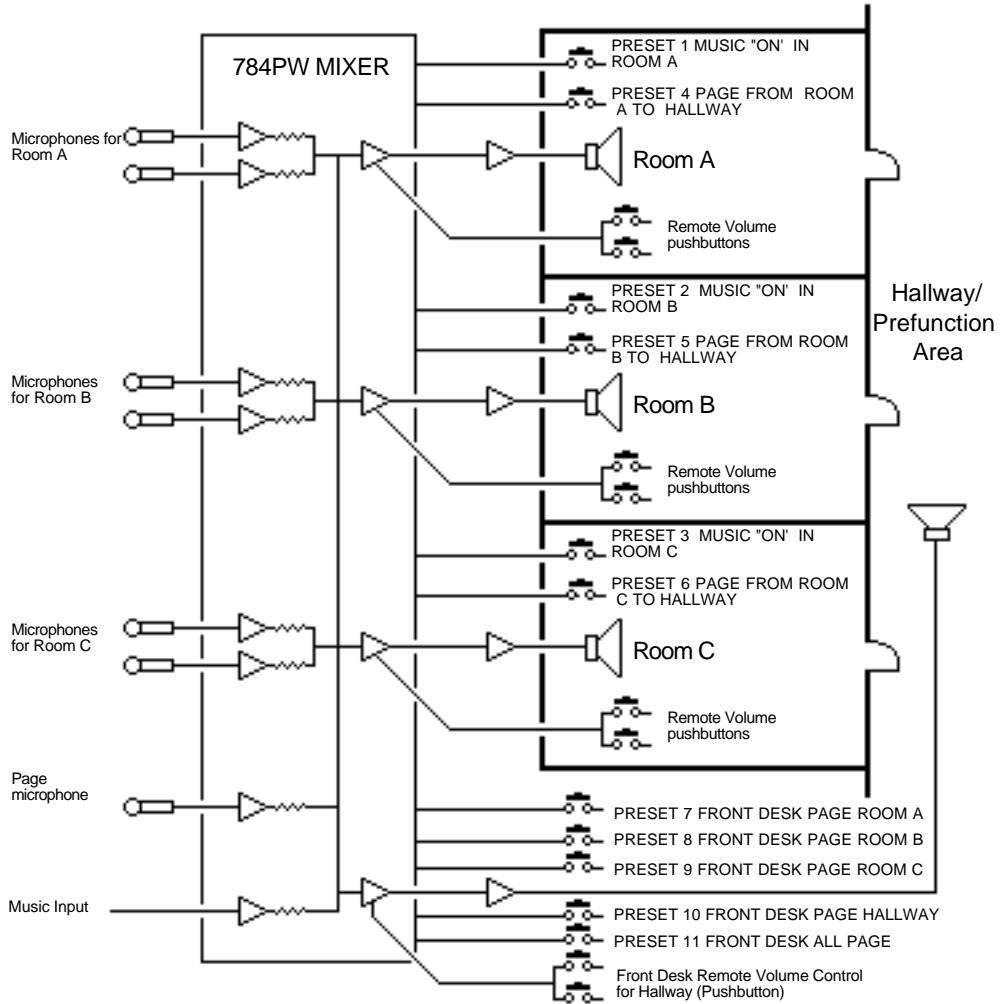
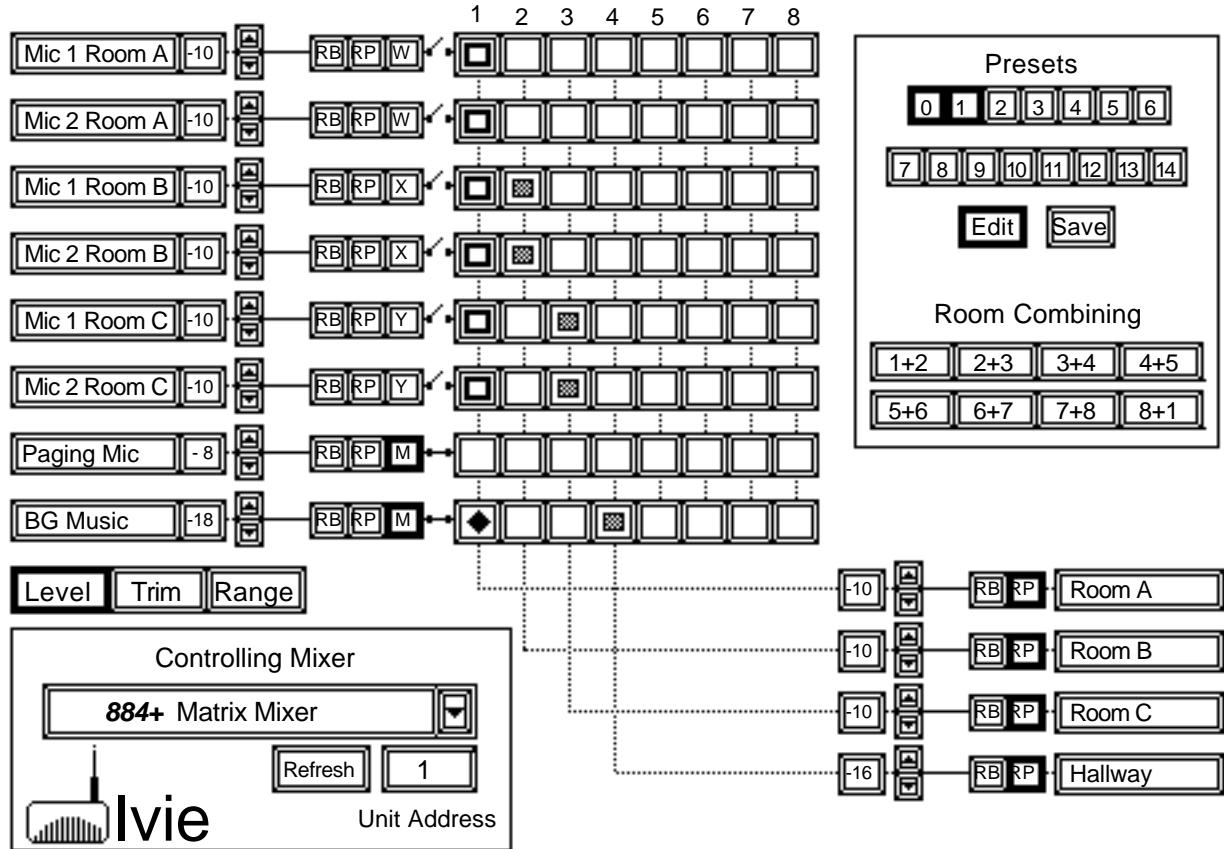
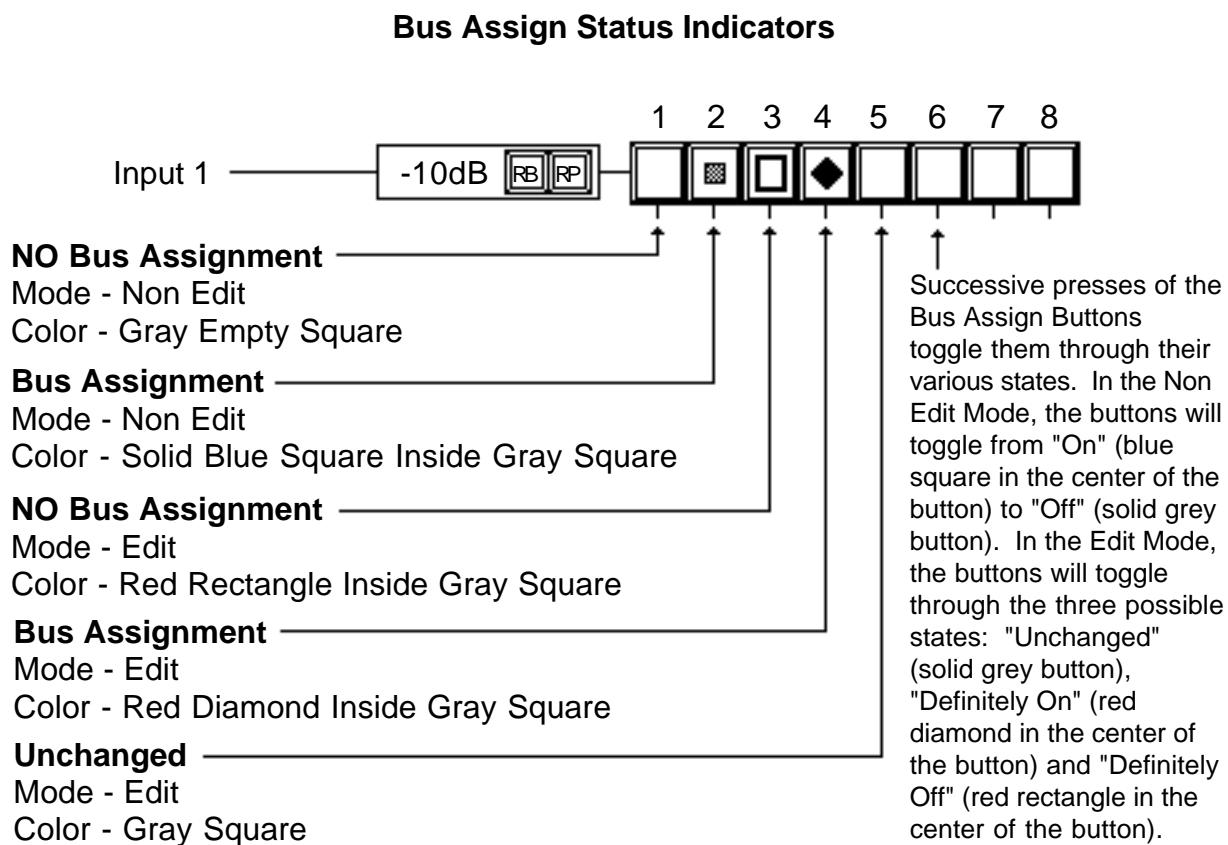

Figure 37
Figure 39
Figure 40
understood. Figure 37 below illustrates a three meeting room application with requirements for paging, room combining, background music and remote control:
The first question to ask when programming Preset 0 is, “What is the normal operating configuration of the system?” Once the answer to this question is known, programming becomes simple. For the system in Figure 37, the normal operating configuration is as follows: Each room has both of its microphones active. Background music is off. The rooms are not combined. The master level control for each room room is active. In the hallway, background music is on and the level control for the hallway is active.
is easy. In the application shown in Figure 37, one of the system requirements is a switch in each room that turns on background music and kills the mics. This switch would activate a preset. The programming of that preset (Preset 1) for Room A is shown in Figure 39 below:
2. Press the desired preset button. Notice in Figure 39 that the Edit and Preset 1 Buttons have both been pressed. This indicates that Preset 1 has been selected for programming. *The Edit button must be pressed first.* Pressing the Preset 1 Button first would give an “Activate Preset 1” command instead of an edit or “Program Preset 1” command.
In the Edit mode, all programmed information shows up in red on the ANSW+ software control screen. This provides positive indication that the Edit mode has been selected. In programming Preset 0, a Bus Assign Button is either pressed or not pressed (blue square inside grey button, or no blue square, respectively), but in the Edit mode, three states are possible: 1) Definitely On, 2) Definitely Off, and 3) Unchanged. When modifying Preset 0 (which is exactly what Presets 1 - 14 do) three possibilities exist for a change to a Bus Assign Button: Let it stay the way it was in Preset 0 (Unchanged), or, make the bus assignment (Definitely On), regardless of whether it was made or not made in Preset 0, or definitely do not make the bus assignment (Definitely Off), regardless of whether it was made or not made in Preset 0. Figure 40 below demonstrates these indicators on the Bus Assign Buttons:
As shown in Figure 40, a "Definitely On" bus assignment shows up as a red diamond, while a "Definitely Off" bus assignment shows up as a red rectangle. Referring back to Figure 39, the microphone inputs for Room A have been turned off as part of Preset 1. *However, notice that the*
microphone input to rooms B and C are also turned off. Although these microphones do not normally feed Room A, they would feed A in a room combining situation. If Rooms A and B were combined, the Room A microphones would feed both rooms and the Room B microphones would feed both rooms. The precaution has been taken, in programming Preset 1, of turning off any microphone that may be feeding Room A when background music is turned on. Figure 39 illustrates this clearly.